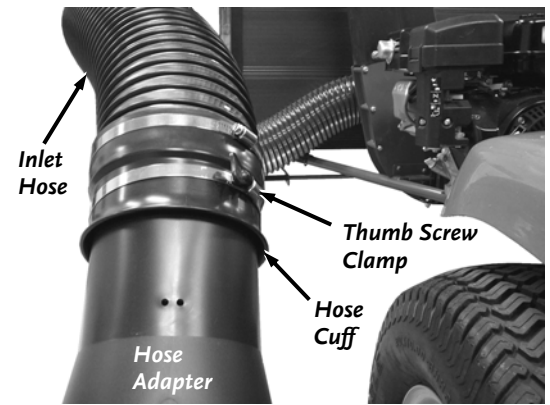

Figure 20
1. Connect the Inlet Hose to the Hose Adapter by sliding the Hose Cuff over the Hose Adapter (**Figure 20**).